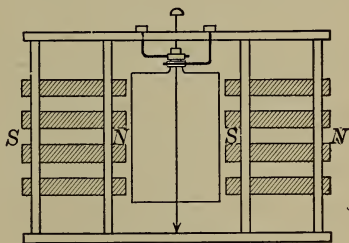

FIGURE 143.—A SIMPLE GENERATOR.
**189. The Simple Generator.** — Figure 143 shows a